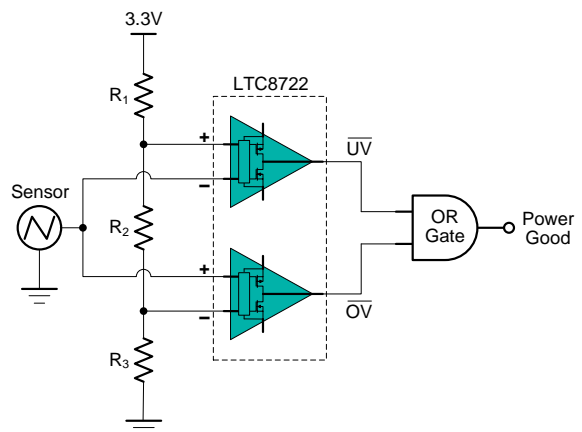

Figure 6. Window Comparator
Window comparators are commonly used to detect undervoltage (UV) and overvoltage (OV) conditions. Figure 6 shows a simple window comparator circuit.
Configure the circuit as shown in Figure 6. Connect  $V_{S+}$  to a 3.3-V power supply and  $V_{S-}$  to ground. Make  $R_1$ ,  $R_2$  and  $R_3$  each 10-M $\Omega$  resistors. These three resistors are used to create the positive and negative thresholds for the window comparator ( $V_{TH+}$  and  $V_{TH-}$ ). With each resistor being equal,  $V_{TH+}$  is 2.2 V and  $V_{TH-}$